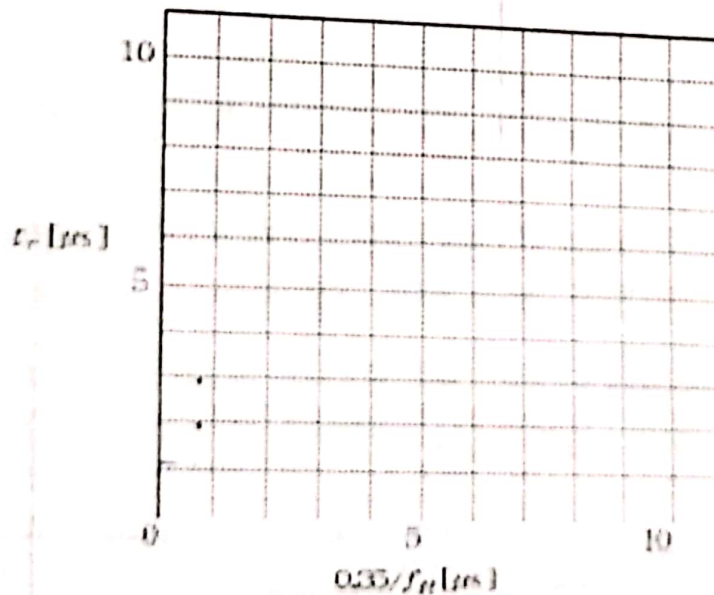

Figure 2-14. Relationship between bandwidth and rising time
(9) Record the result after calculating $0.35/f_H$ against bandwidth of each transmission channel provided in table 2-3.
(10) Draw the result of table 2-3 in graph to indicate rising time against bandwidth into figure 2-14.